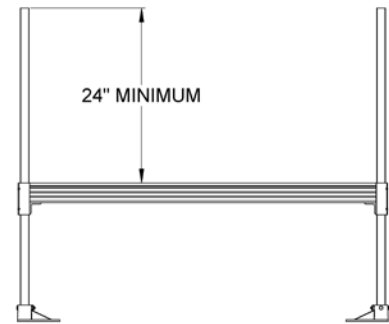

FIG. 5
- ⚠ The support tubes are also used to support the guardrails. When installed, the support tubes must extend at least 24" above the platform walking surface (FIG. 5).